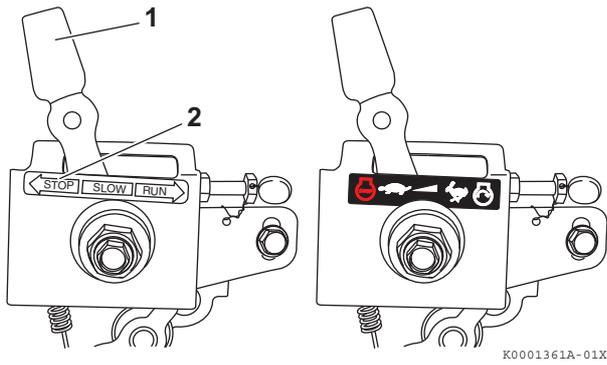

Figure 18
1. If your engine speed control is similar to **Figure 18** slide the engine speed control lever (**Figure 18, (1)**) to the STOP position (**Figure 18, (2)**).